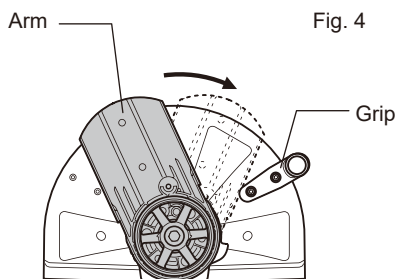
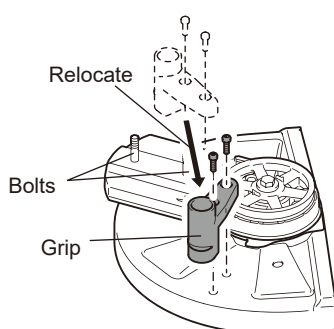

Fig. 4
Fig. 5
- (5) Rotate the arm until it contacts the grip and return the lock shaft to the original position by hand. (Fig. 4) Reposition the grip. (Fig. 5)